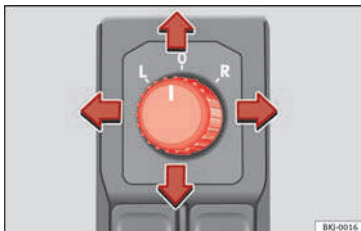

Fig. 128 Exterior mirror controls.
1. Turn knob » **Fig. 128** to position **L** (left exterior mirror).
- Turn the control » **Fig. 128** to position to fold in the exterior mirrors. You should always fold in the exterior mirrors if you are driving through an automatic car wash. This will help prevent damage.